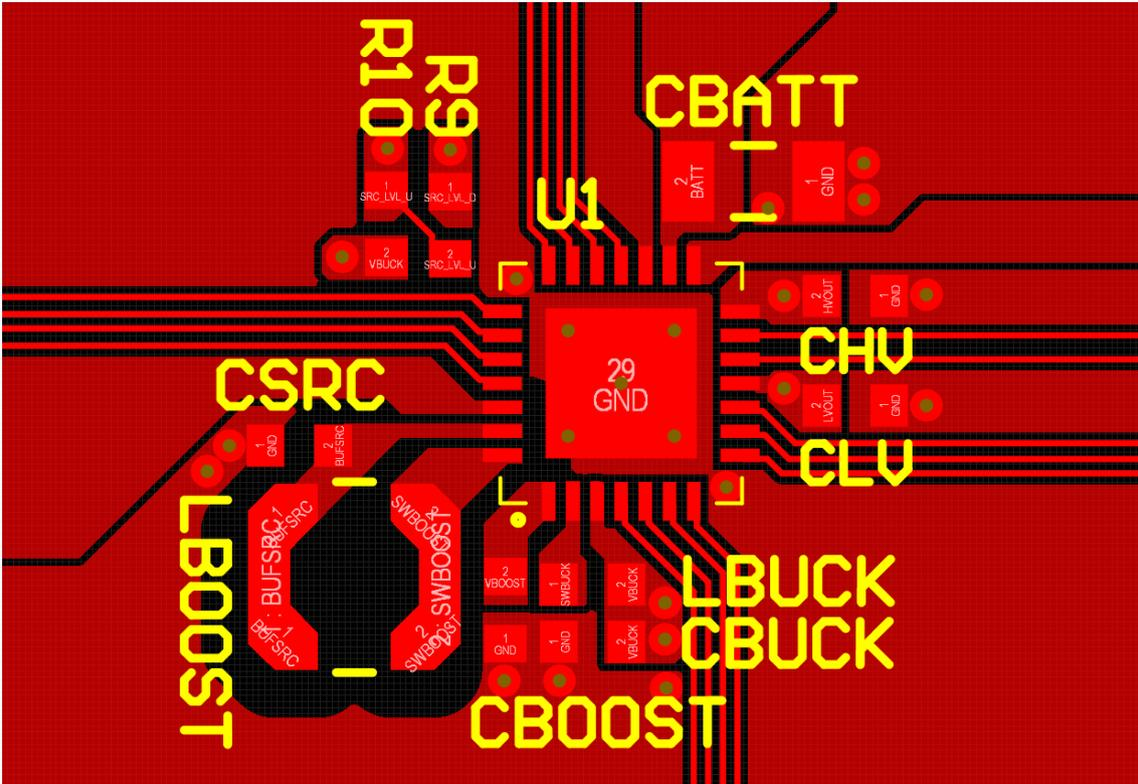

Figure 26: Layout example for the AEM00940 and its passive components
- The switching nodes (**BUFSRC**, **SWBOOST**, **SWBUCK** and **BUCK**) must be kept as short as possible, with minimal track resistance and minimal track capacitance. Low resistance is obtained by keeping track length as short as possible and track width as large as possible between these switching nodes and the AEM0094x pins. Minimal capacitance is obtained by maintaining a large distance between the switching nodes and other signals. We recommend removing the ground plane, the power plane and the bottom layer ground pour under **L_{BOOST}** and **L_{BUCK}** footprints, as well as adding distance between **BUFSRC/SWBOOST** and the top ground pour, as shown in Figure 26.
- The **GND** return path between the decoupling capacitors and the AEM0094x thermal pad, which is the AEM0094x main **GND** connection, must be as direct and short as possible. This is preferably done on the top layer when possible, otherwise by internal/bottom plane, using low resistance vias to decrease layer-to-layer connection resistance. In Figure 26, this **GND** return path is done on an internal plane.